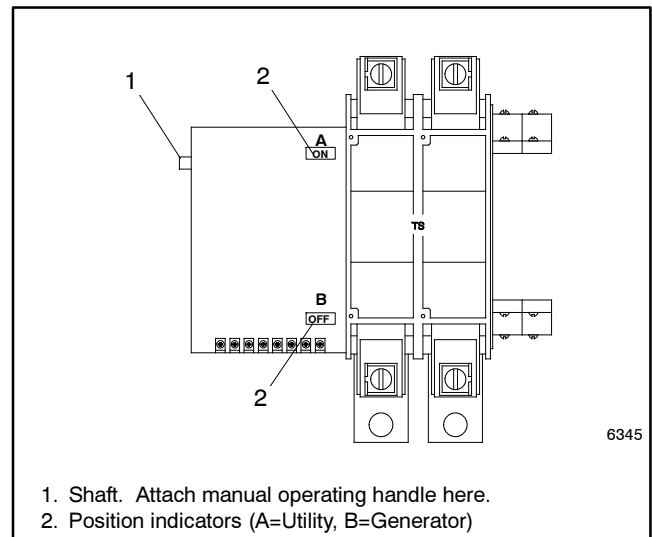

Figure 2-5 400 Amp Contactor
1. Check the contactor position, indicated by the A and B position indicators. See Figure 2-5. One position indicator will display ON to indicate the source position. A is utility power and B is the generator set.
2. Slide the manual operating handle (provided with the switch) over the shaft on the left side of the switch. See Figure 2-5 and Figure 2-6.